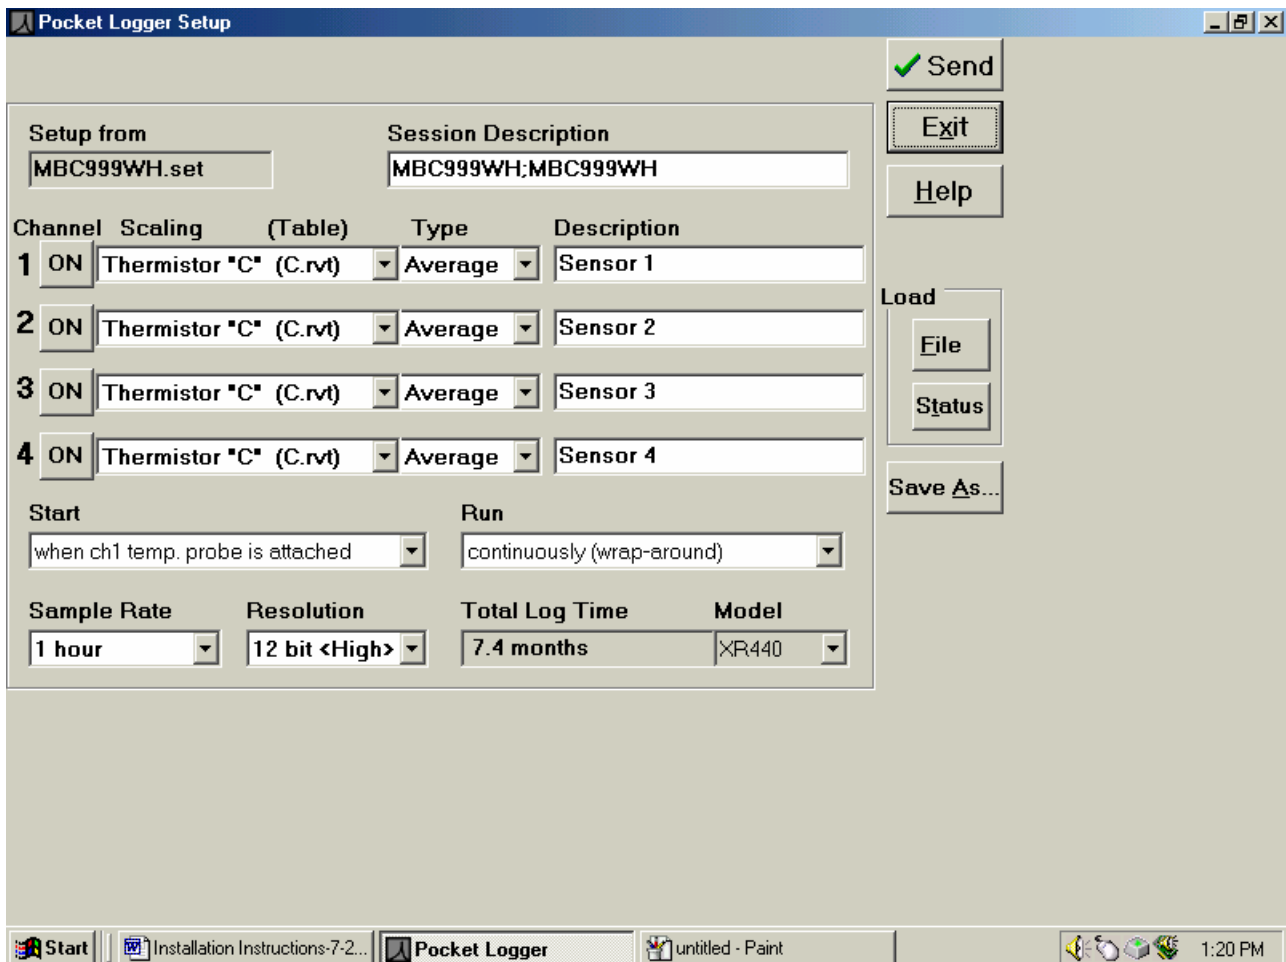

Figure No. 1
4. The **Pocket Logger Setup screen** will appear (See Figure No. 1). To create a new setup file, Click "Save As. A **Save Setup As screen** will appear. At the **Save Setup As screen**, you will be prompted to Enter a File name for the new setup file. (Your file name is limited to (8) characters – we suggest simply using "Miller" as your file name). Enter a File name. Your new setup file will be saved in your PSLOG subdirectory. C:\Program Files\PSLOG3\FileName.set (ie: C:\Program Files\PSLOG\Miller.set) After you have entered a file name, Click "Save"